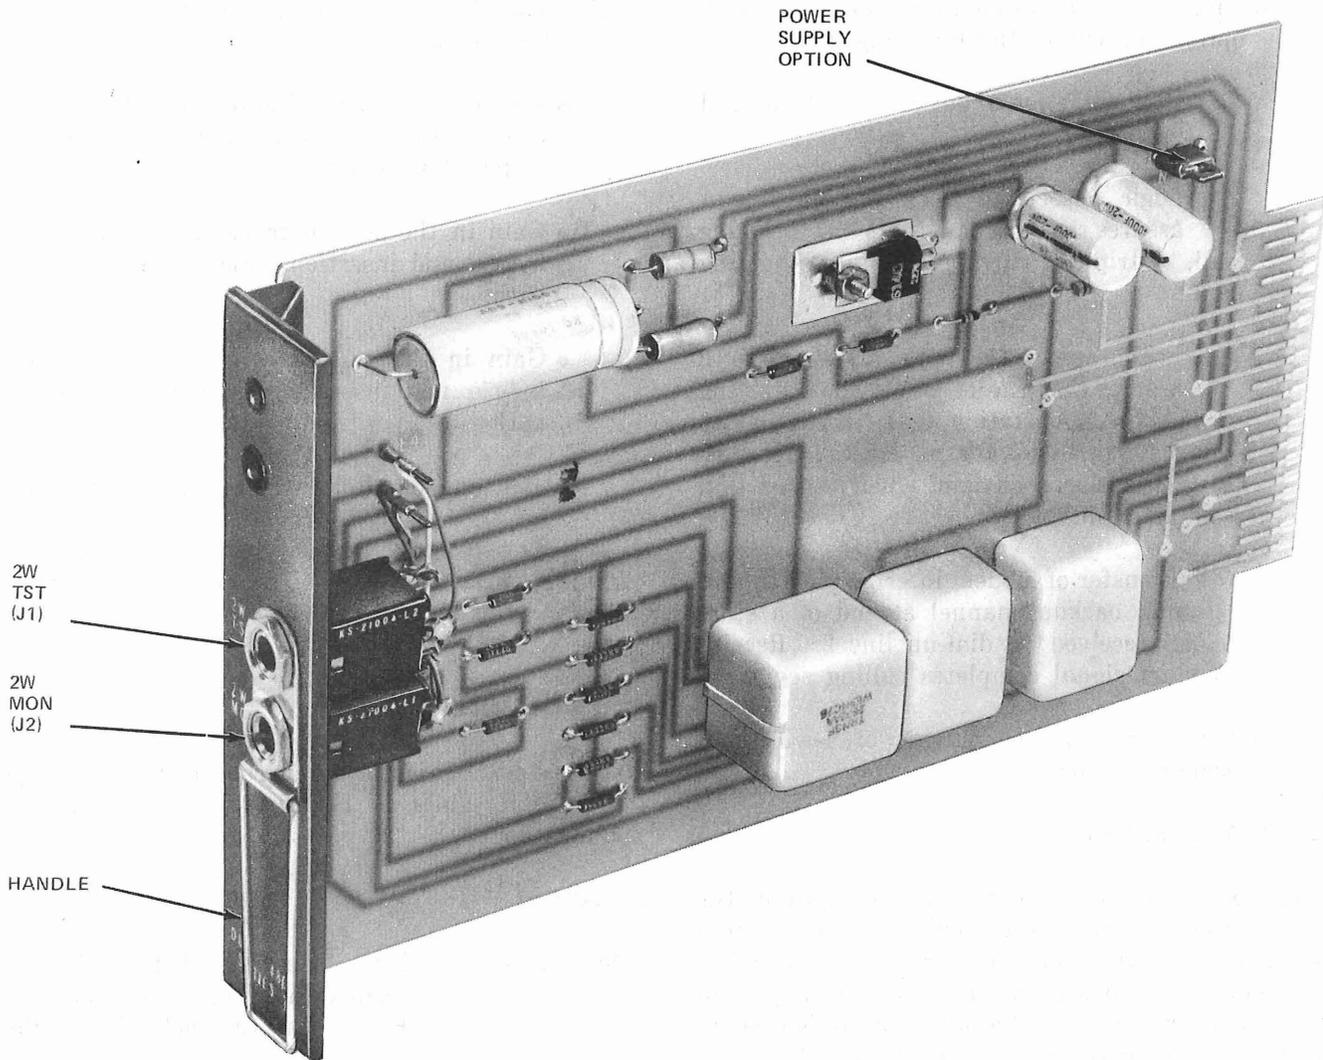

Fig. 7—48G1 Data Unit
**2.24** The 48G1 data unit (Fig. 7) contains the circuitry required to provide conversion from a 2-wire to a 4-wire channel. The data unit consists of component apparatus mounted on a plug-in printed wiring board. The data unit is housed in a 46B1, 59A1, or 62A1 data mounting. A handle is provided on the data unit faceplate to facilitate removal of the data unit from the data mounting.